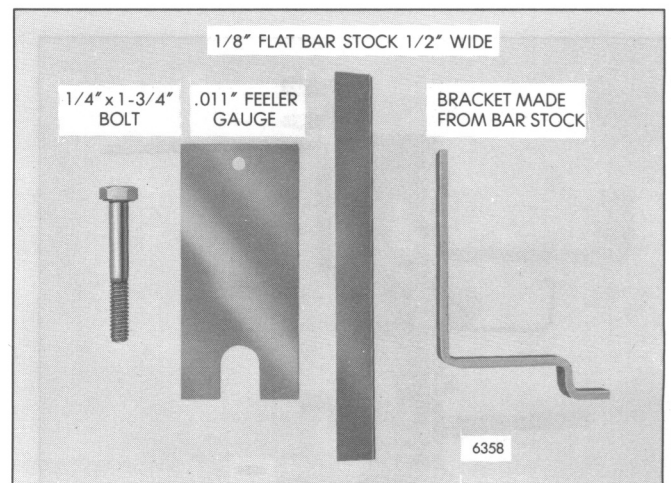
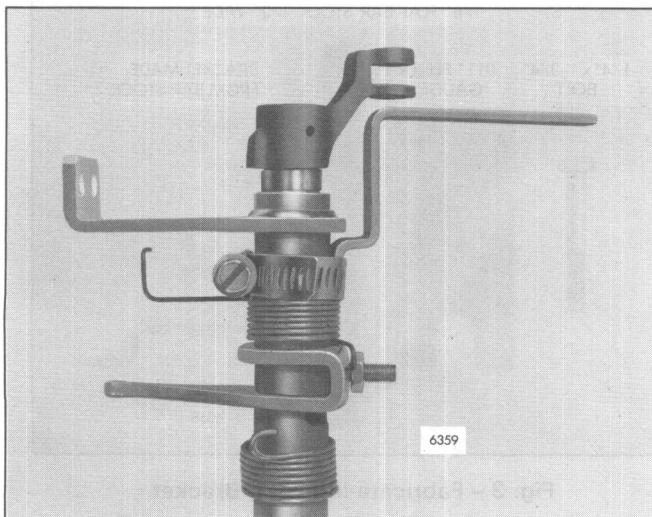

Fig. 3 – Fabricate Indexing Bracket
Fig. 4 – Secure Indexing Bracket to Control Tube
2. Fabricate an indexing bracket from a 5" long piece of 1/2" wide, 1/8" thick bar stock (Fig. 3). Secure the indexing bracket to the control tube with a hose clamp (Fig. 4).